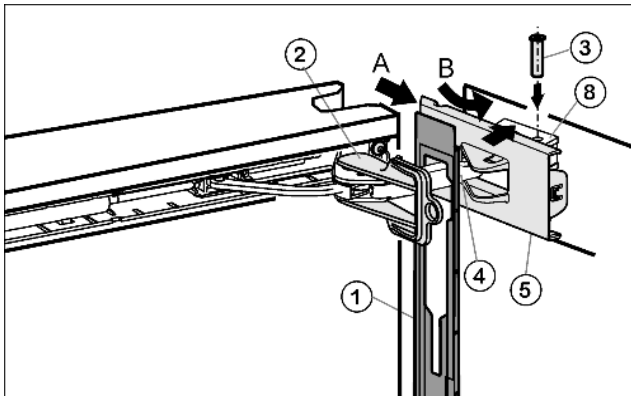

Fig. 17
- ▶ Attach the faceplate Fig. 17 (1) to the soft stop bracket Fig. 17 (4) so that the catches face inwards and the front faces the appliance.
- ▶ Slide on the cover Fig. 17 (5) from the outside (A) and swivel it over the bearing part Fig. 17 (8) (B).
- ▶ Attach the cover Fig. 17 (5) and engage it as far as the first detent.
- ▶ Draw the soft stop bracket Fig. 17 (4) towards the bearing part and insert the pin Fig. 17 (3) from above so that the square sits in the recess.
- ▶ Now completely snap the cover Fig. 17 (5) onto the bearing part Fig. 17 (8).
- ▶ Twist the safety lock Fig. 17 (2) for removal.
- ▶ Slide the faceplate Fig. 17 (1) onto the door and snap it into place.